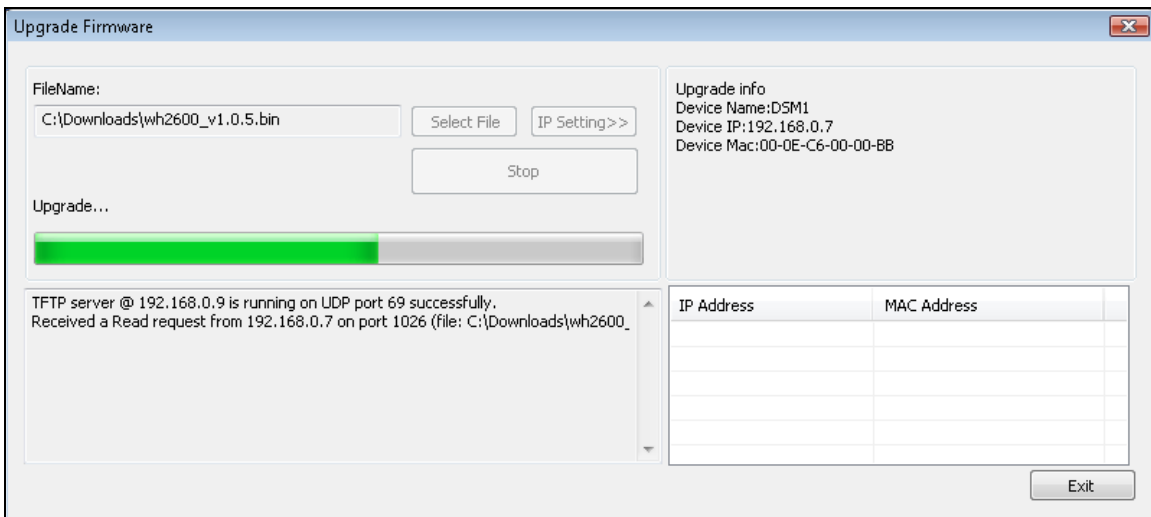

Figure 24
5. Select the **Upgrade Firmware** button. Reference Figure 24. The dialog box will display **Received a Read Request** from the ObserverIP module. A green progress bar will provide you with the upgrade status.